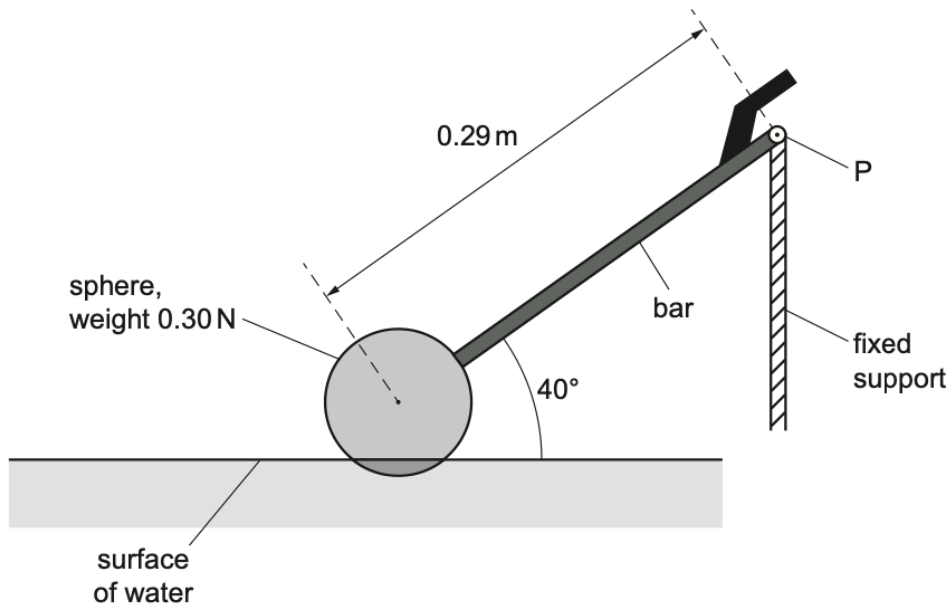

Fig. 3.1 (not to scale)
- 18 (b) A hollow plastic sphere is attached at one end of a bar. The sphere is partially submerged in water and the bar is attached to a fixed vertical support by a pivot P, as shown in Fig. 3.1.
- (c) The system shown in Fig. 3.1 is part of a mechanism that controls the amount of water in a tank.